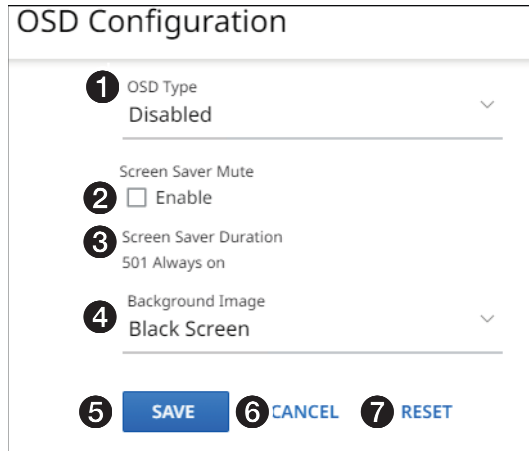

Figure 21. OSD Configuration Pane
This pane shows the options for the OSD and screen saver on the Loop Thru (see item B on page 5) and streamed outputs. If you change any setting, either directly or by clicking **Reset** (see figure 21, 7), the **Save** button (5) becomes selectable. Click **Save** to take change or **Cancel** (6) to abandon the changes. Clicking either button closes the dialog box.
- 3 **Screen Saver Duration** (see figure 21 on page 28, available when **Screen Saver** [2] is selected) — Click in the **Duration** field and edit it as desired or click + or - to increment or decrement the delay (in seconds) of how long the screen saver stays active and streaming, before muting sync to a display. The valid range is from 1 to 500 (seconds) or 501 Always on.